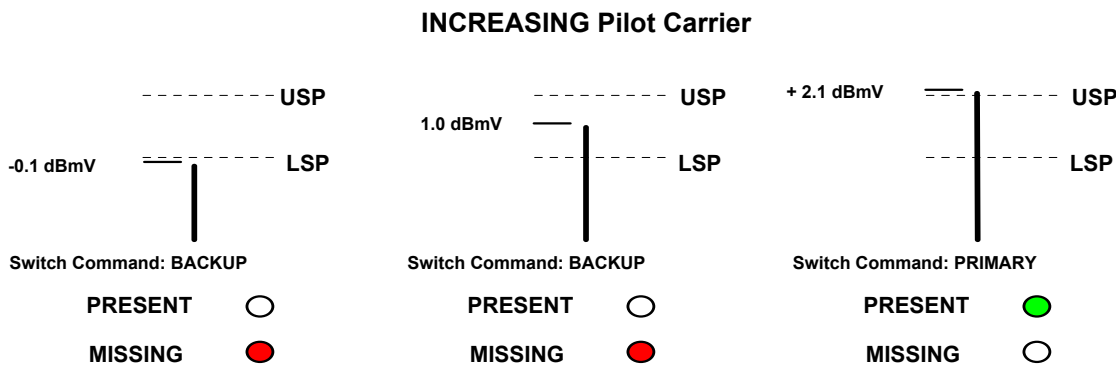

Fig. 5: Increasing Pilot Carrier verses Setpoints and Switch Command Example
**IMPORTANT:** To understand the switching action controlled by the Receiver Decision Logic, one must have a clear understanding of how the Switch Command Output position (MAIN or STANDBY) and hysteresis affect whether a carrier is considered PRESENT or MISSING. Refer to the previous figures: Fig. 4 Increasing Pilot Carrier versus Setpoints and Switch Command Example and Fig. 5 Decreasing Pilot Carrier versus Setpoints and Switch Command Example. In any case, if the Switch Command Output has changed to the STANDBY position, the carrier or carriers, depending on Receiver Logic Mode chosen, must rise in amplitude above the UPPER setpoint to cause the Switch Command Output to return to the MAIN position.